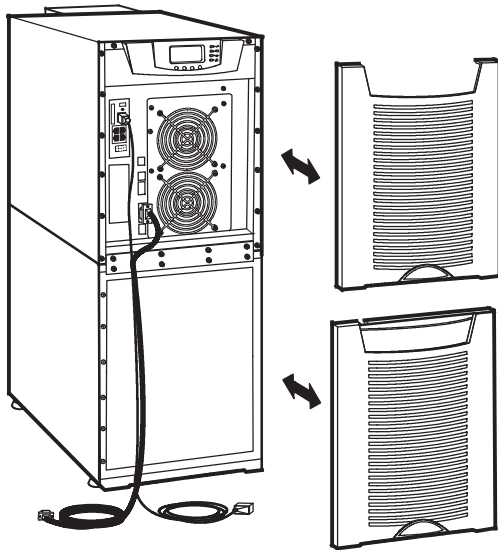

Figure 50. Reinstalling the Front Covers
6. Reinstall the front covers, starting with the bottom cabinet (see Figure 50).